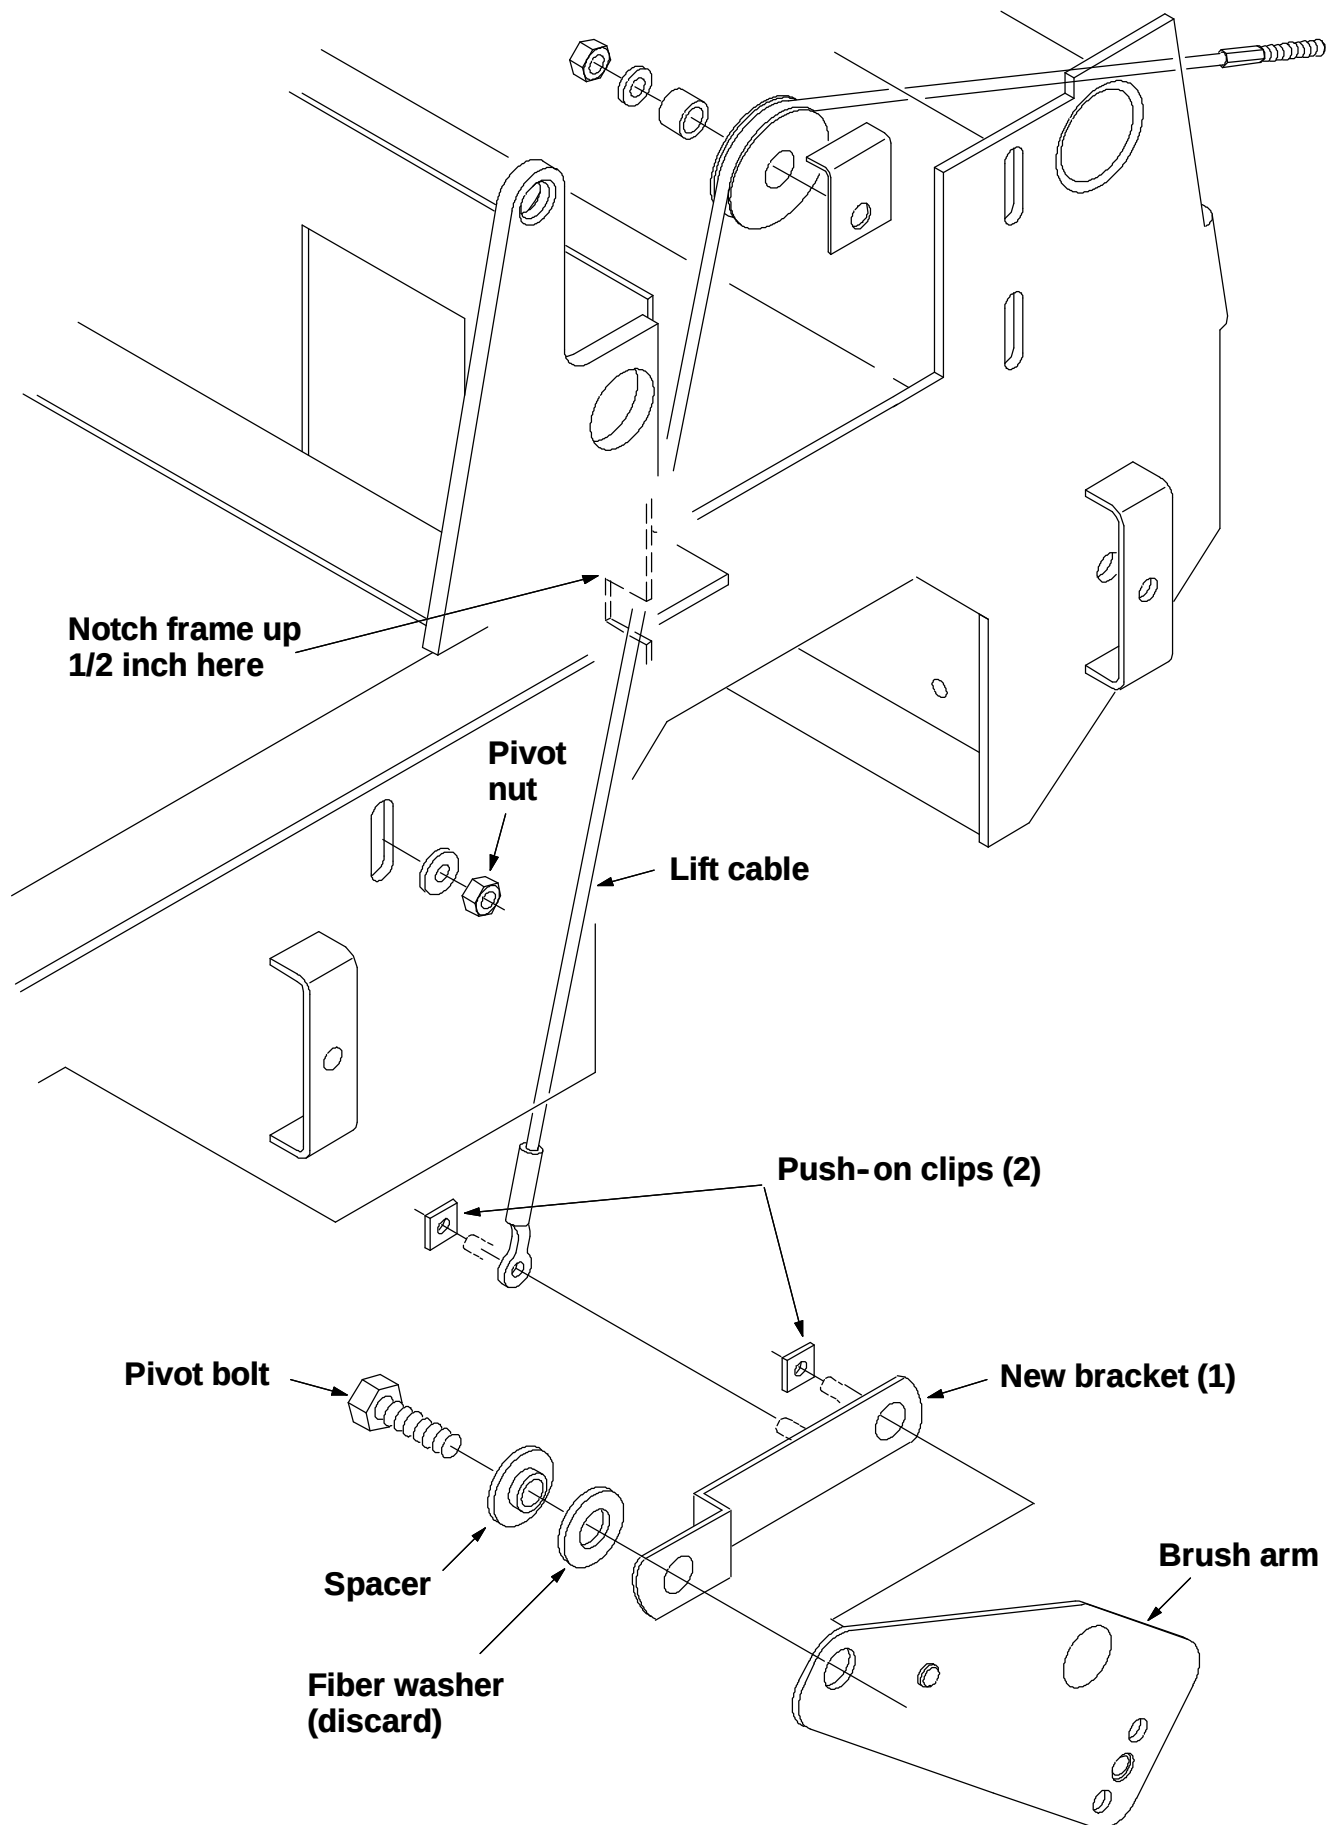

FIG. 1 - Sweeper Assembly Brush Lift Arm And Cable
(Refer to FIG. 1)
1. Lower the sweeper unit. (Refer to FIG. 1)
2. Remove the brush lift cable, pivot bolt, nut, fiber washer, and spacer from the brush arm. (Refer to FIG. 1)
3. Use the grinder to increase the notch in the sweep frame where the lift cable passes through. Grind the notch higher. (Refer to FIG. 1)
4. Install the new bracket (1) on the sweep frame. Put the slot in the new bracket (1) over the pin on the arm. Use one of the push-on clips (2). (Refer to FIG. 1)
5. Reinstall the nut, bolt, and spacer at the end of the arm. Discard the fiber washer. (Refer to FIG. 1)
6. Reconnect the lift cable to the pin on the new bracket (1). Use the second push-on clip (2). (Refer to FIG. 1)
7. Operate the sweeper and check the brush for proper taper. Use the pivot bolt to adjust if needed. There is no down pressure adjustment. Make certain the brush arms are free and do not interfere with the sweeper frame. (Refer to FIG. 1)